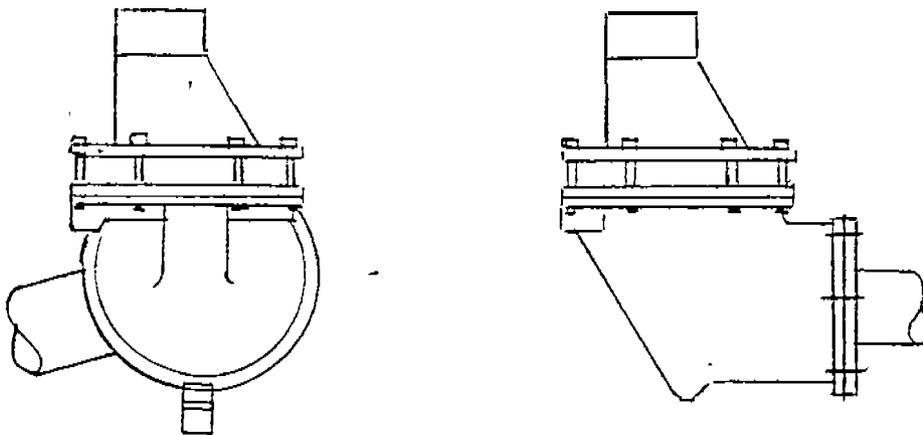

Figure 1. Assembled Intake System
Figure 1 shows the assembled intake system.
- (WEEKLY) 3. () All components appear to be the same as one of the diagram shown in Figure 1.